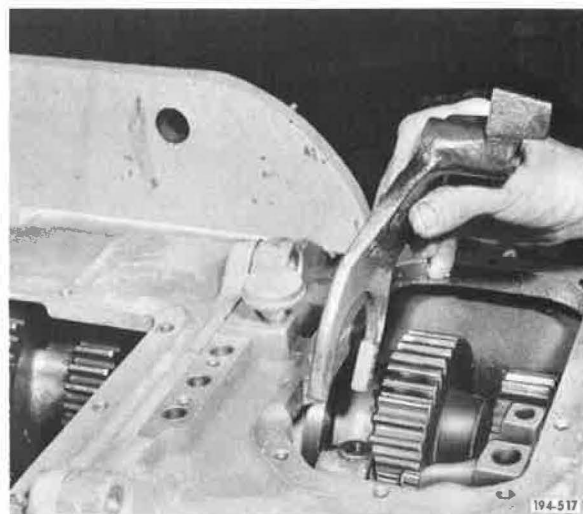

Figure 5-979 Installing Shift Fork
9. Install first speed shift fork onto first speed sliding clutch. See **Figure 5-979**.